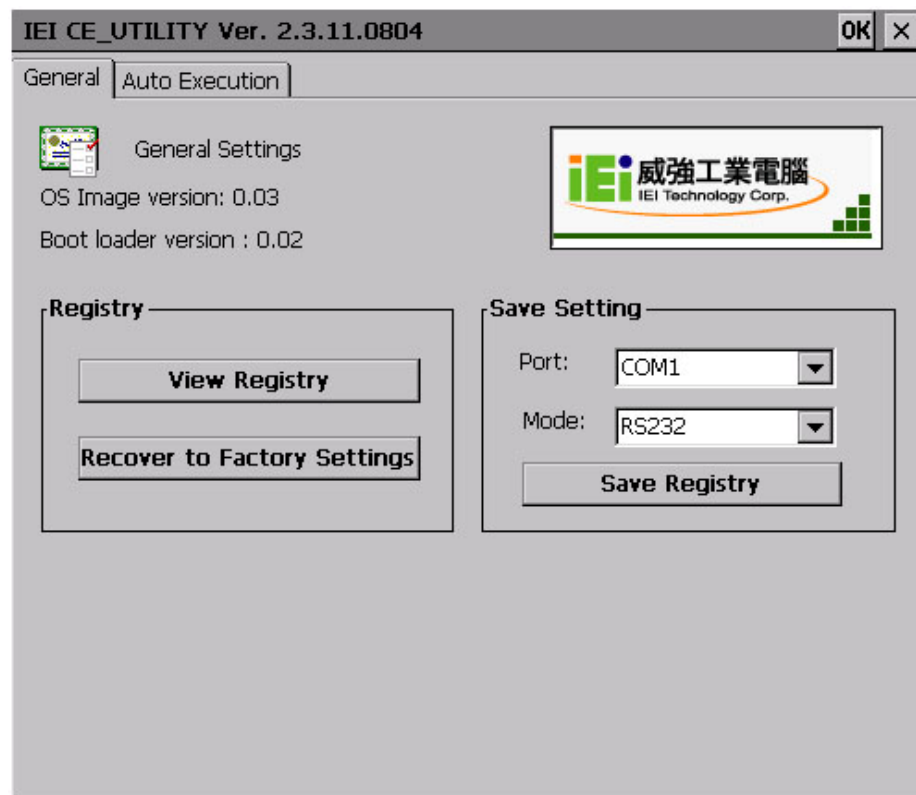

Figure 3-8: Serial Port Mode Setting
Step 2: Change serial port mode setting. Change the value in **Figure 3-8** to the desired mode setting.